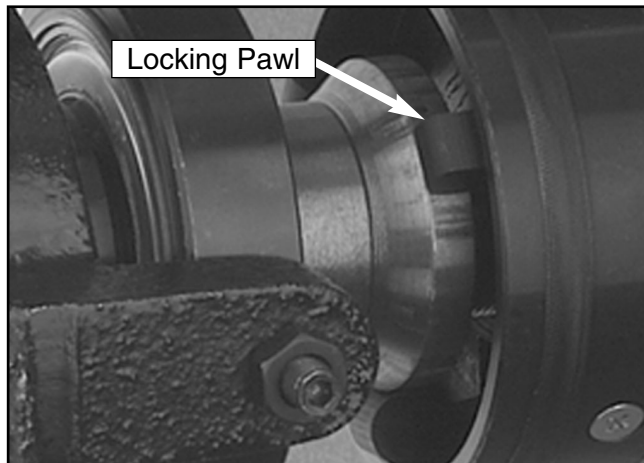

Figure 12. Locking pawls in locked position on the cam lobe.
1. Position the locking pawls so they are in the correct position on the cam as shown in **Figure 12**.
The Model G8143 Collet Closer is adjusted properly when the 3 collet locking pawls are tight on the cam and the workpiece will not twist in the collet. Again, **Figure 12** on **page 7** shows the proper locked position of the collet locking pawls around the cam.